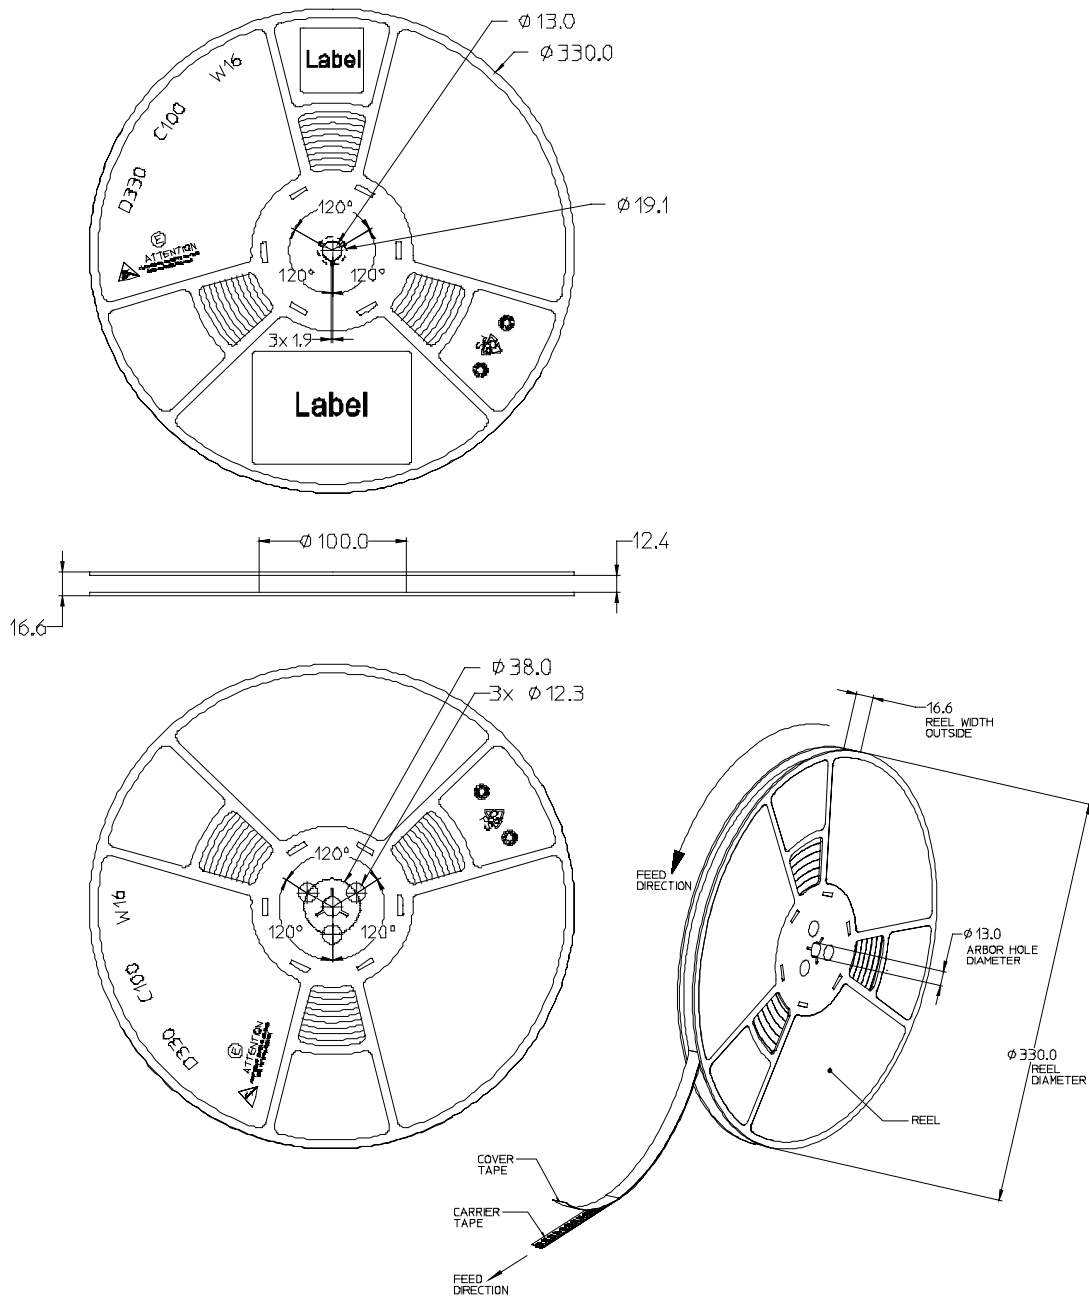

Figure 11. Reel dimensions for LUXEON Rebel Color Line.
Notes for Figure 11:
- Notes to Figure 11: